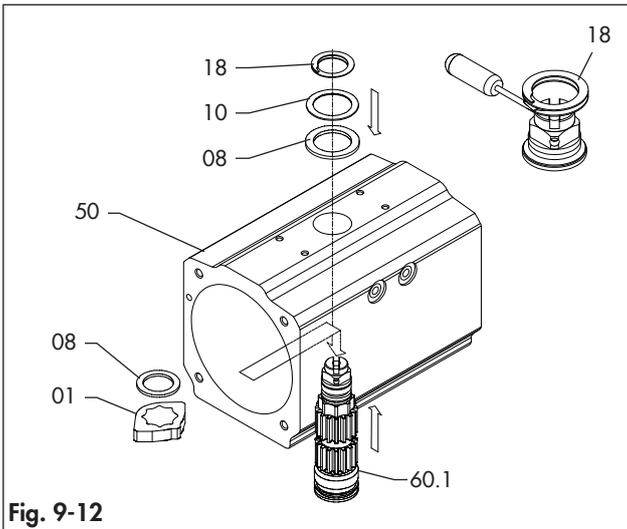
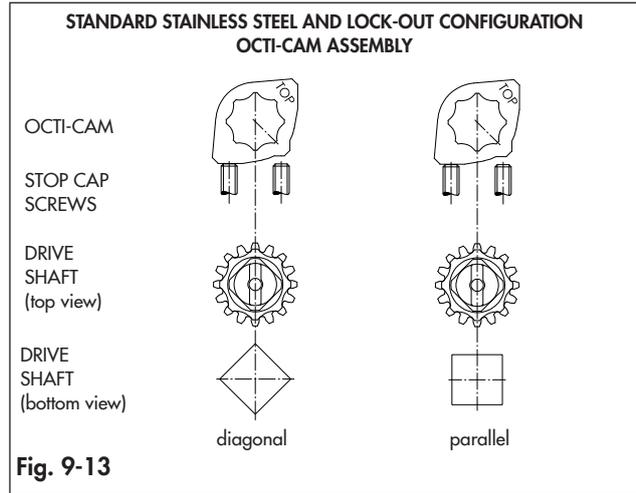

Fig. 9-12
Fig. 9-13
Refer to Fig. 9-1, Fig. 9-11, Fig. 9-12 and Fig. 9-13.
- Insert partially the drive shaft (60.1) into the body (50). (Fig. 9-12)
- Place the octi-cam (01) through the body (50) onto the drive shaft (60.1). Refer to the Fig. 9-13 for the correct placement of the octi-cam (01).
- Place the internal thrust bearing (08).
- Insert completely the drive shaft (60.1) into the body (50).
- Place external thrust bearing (08) and thrust washer (10).